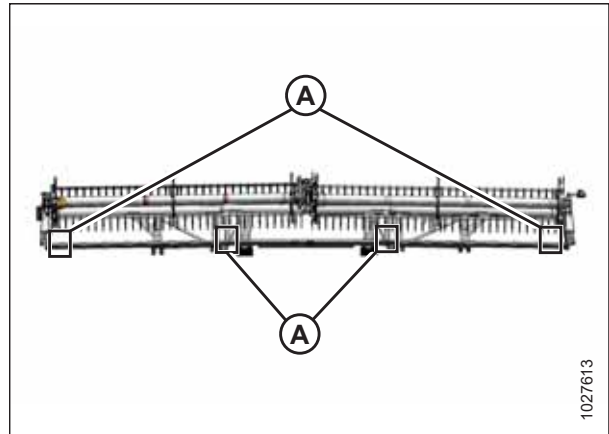

Figure 5.283: FlexDraper® Measurement Locations – Double Reel
- Figure 5.283, page 530 – double reel